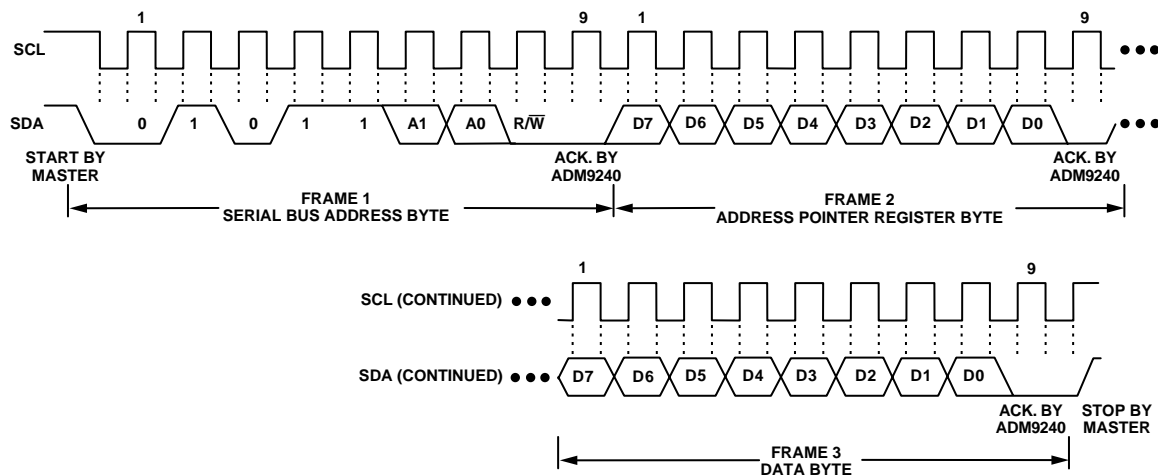

Figure 2a. Writing a Register Address to the Address Pointer Register, then Writing Data to the Selected Register
This is illustrated in Figure 2a. The device address is sent over the bus followed by R/W set to 0. This is followed by two data bytes. The first data byte is the address of the internal data register to be written to, which is stored in the Address Pointer Register. The second data byte is the data to be written to the internal data register.
2. In Figures 2a to 2c, the serial bus address is shown as the default value 01011(A1)(A0), where A1 and A0 are hardwired to either Logic 0 or Logic 1.